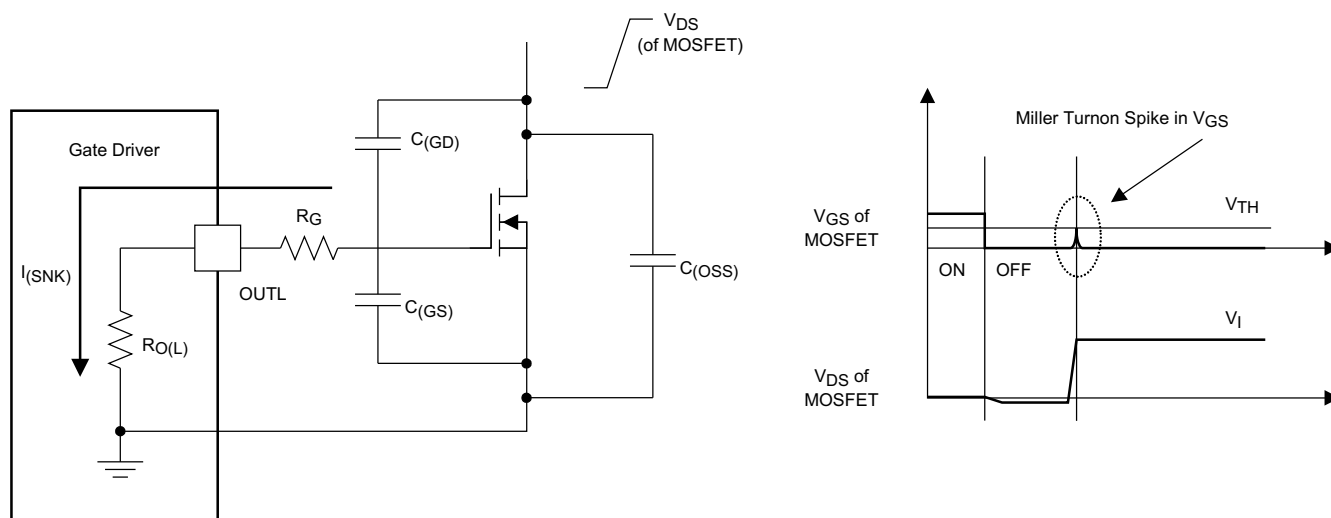

图 6-6. Very-Low Pulldown Impedance in UCC27511A-Q1, 4-A and 8-A Asymmetrical Drive (Output Stage Mitigates Miller Turnon Effect)
An example of a situation where the Miller turnon effect is a concern is synchronous rectification (SR). In an SR application, the dV/dt occurs on the MOSFET drain when the MOSFET is already held in off state by the gate driver. The current discharging the $C_{(GD)}$ Miller capacitance during this dV/dt is shunted by the pulldown stage of the driver. If the pulldown impedance is not low enough then a voltage spike can result in the V_{GS} of the MOSFET, which can result in spurious turnon. This phenomenon is shown in 图 6-6. The UCC27511A-Q1 device offers a best-in-class, 0.375- Ω (typ) pulldown impedance boosting immunity against Miller turnon.